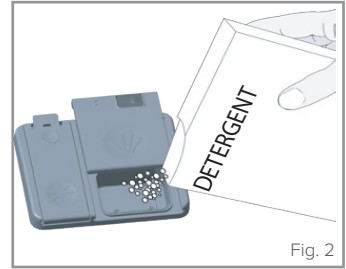

Fig. 2
2. Add the required amount of detergent. The main detergent compartment (b in Fig. 2) has lines to allow for specific amounts of detergent.
If your dishes are in need of an intensive wash, then add 5cm3 of detergent into the prewash section of the compartment (a in Fig 2).